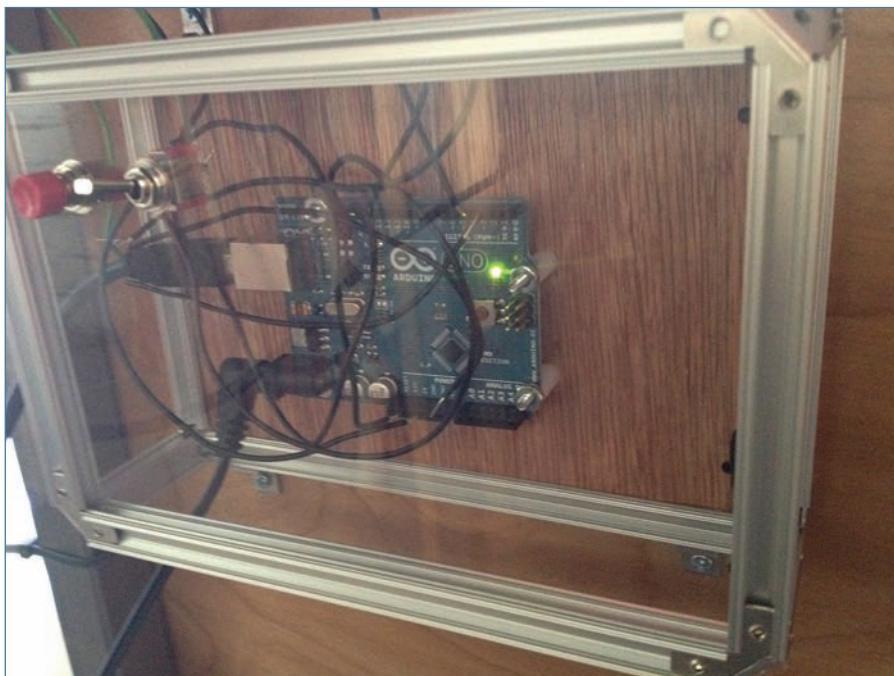

FIGURE 3.33 The enclosure attached to the underside of the coffee table.
7. After the guts are in the enclosure, close up the top and lightly secure it with one of the MicroRAX screws. You won't want to secure it fully until you're done. Figure 3.33 shows you how the final enclosure looks.